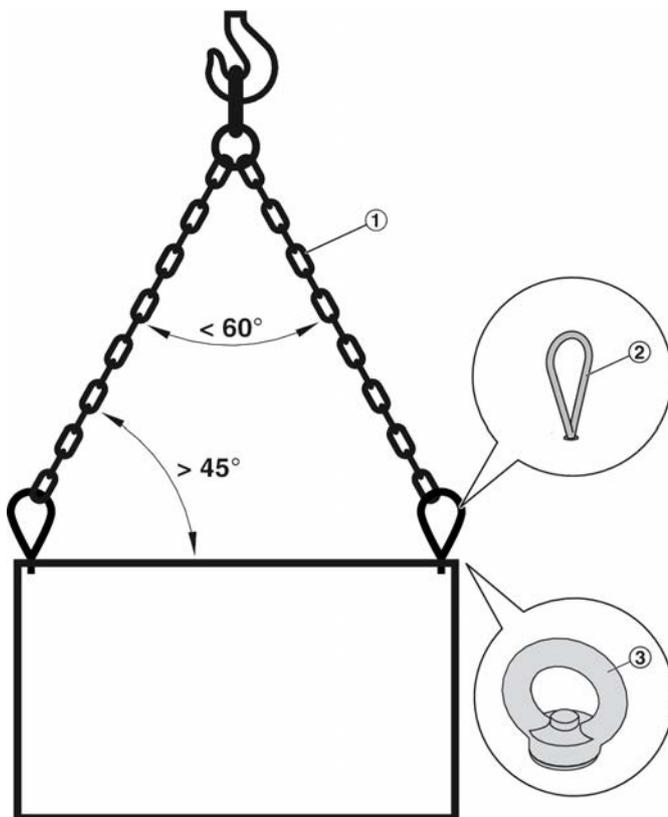

Fig. 12: Using lifting eyes for moving units with a crane
Insert all lifting eyes (Fig. 12 /2) into the threaded holes.
- ▶ Hook the slings (Fig. 12 /1) into the lifting eyes or eye nuts.